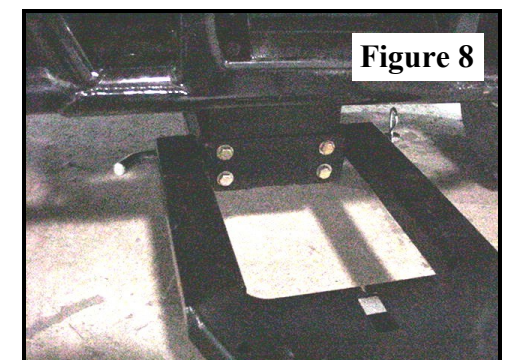

Figure 8
**F) (FIG. 8)** Have an assistant help move the plow A frame assembly into place holding the A frame arms above the reinforcing plates on the A frame bracket. Turn the steering wheel all the way to the right to create enough clearance to install the  $\frac{5}{8}$ " quick release pin. Line up the holes and install the quick release pin.